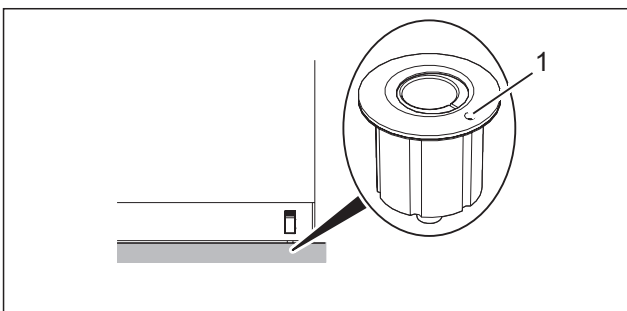

Fig. 23 Clean floor strikes
1. Clean all floor strikes (Fig. 23/1).